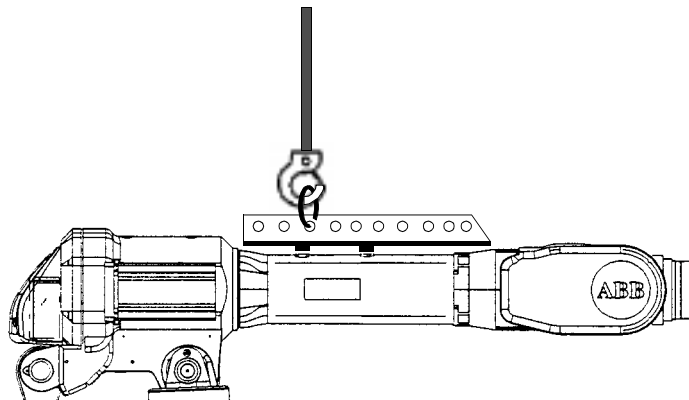

Figure 10 Lifting the upper arm.
3. Attach a hoist and the lifting device (3HAC 6878-1) to the upper arm. See Figure 10